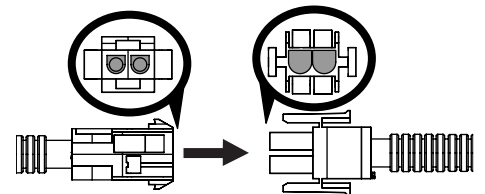

Figure 2-4
7. Connect the headlight harness/12V wiring harness to the main harness. Make sure the D-shape connectors align properly. See Figure 2-4.